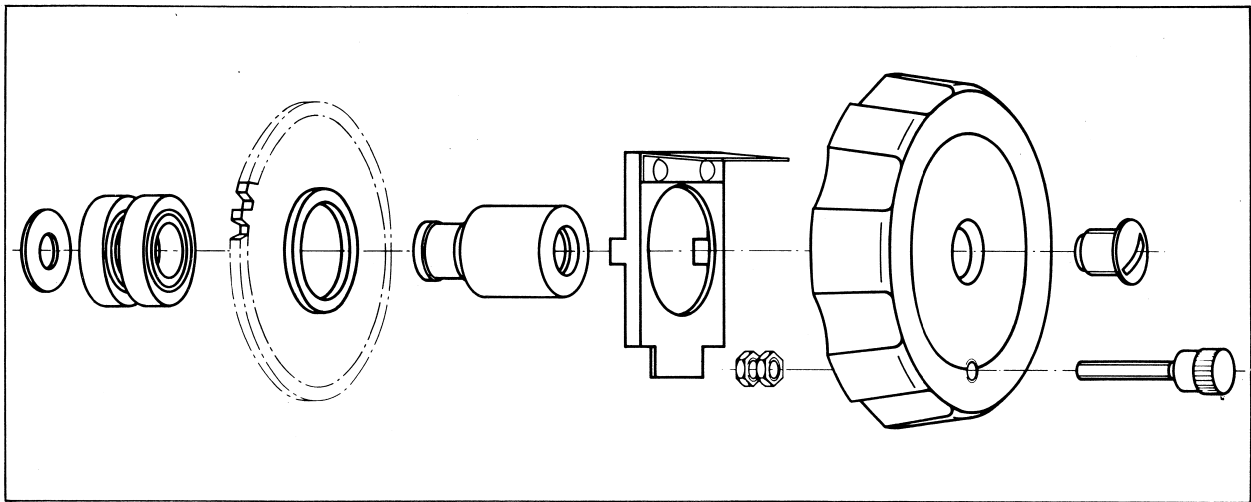

Fig.12. Disassembled frequency knob of the Wave Analyzer, type FRA3.
- 5) Remove the metal insert now visible by unscrewing the two grub screws. (See Fig. 12).